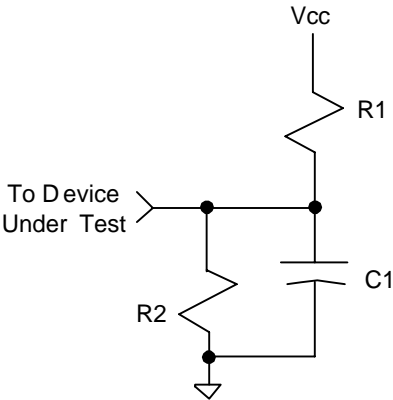

Figure 11: AC Test Load
6. With load specified in Figure 11 on page 26, Test Load A.
7. With load specified in Figure 11 on page 26, Test Load B.